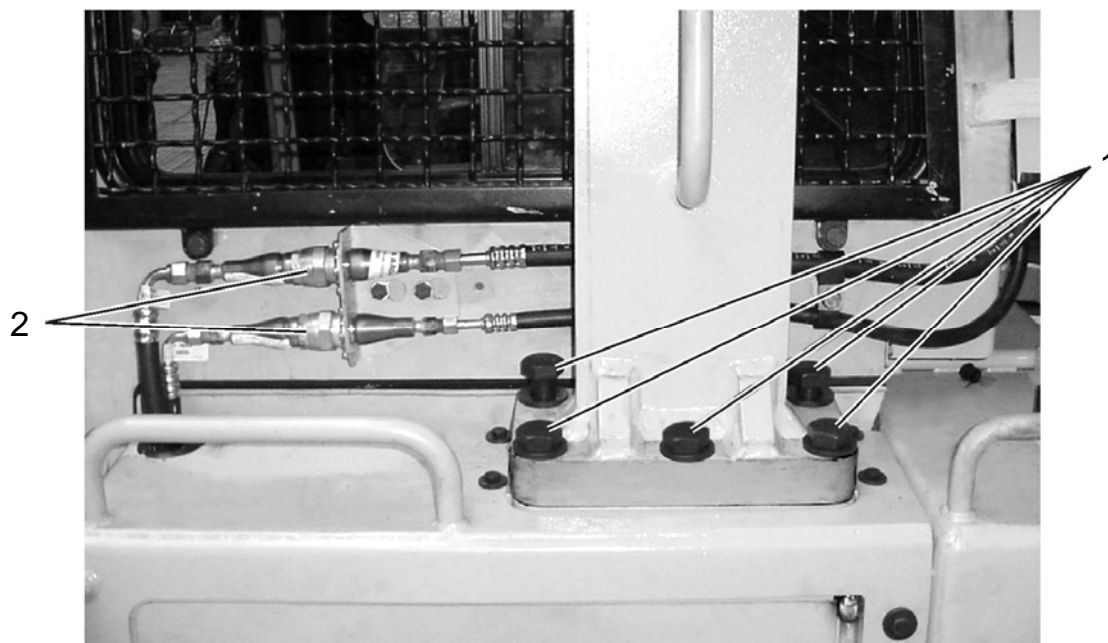

Fig. 13.1. A/C System Condenser and ROPS Disconnecting Points (LH side)
3. Use lifting device to remove the ROPS structure. Unscrew the bolts them (1, Fig. 13.1) securing ROPS to the crossbeam assembly (five bolts on each side) and remove.
4. Remove Quick couplings cover and disconnect quick couplings (2, Fig. 13.1) of A/C system, protect them against dirt.
3. Reconnect A/C system quick couplings (2, Fig. 13.1), install the couplings cover.